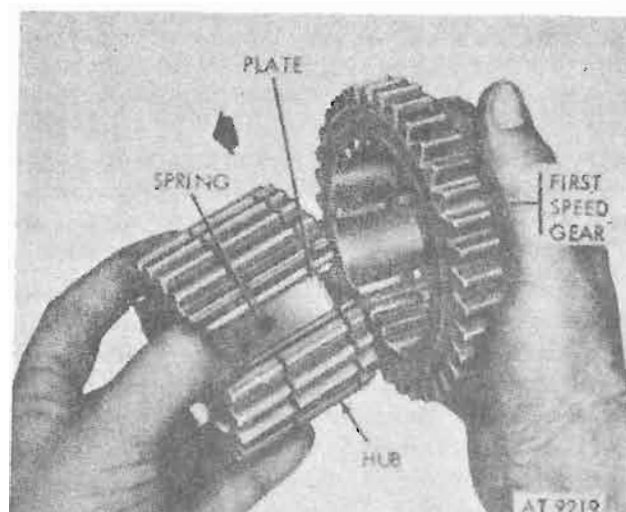

Figure 8-86. Position first speed gear on hub.
d. Holding plates and springs as shown in figure 8-86, position hub to first speed gear and partially install on splines.